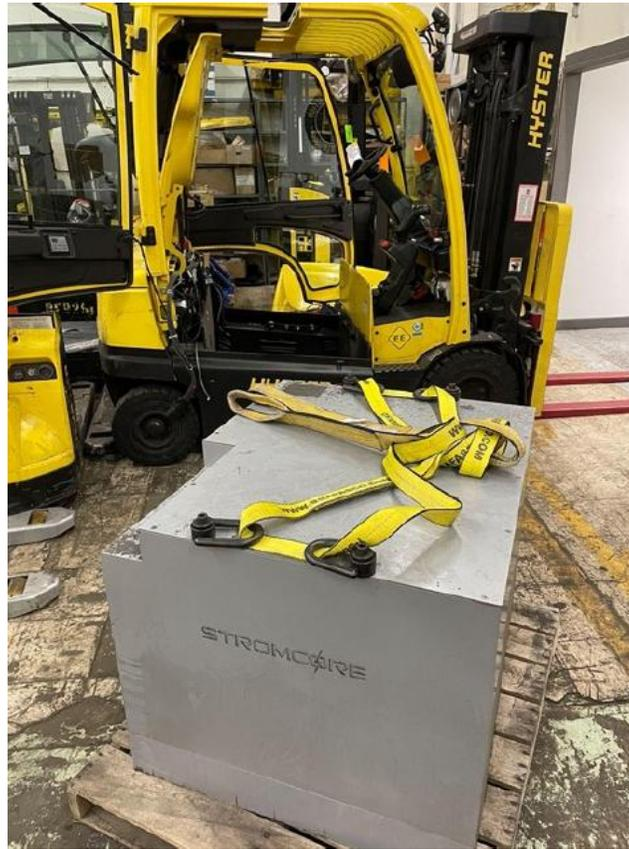

Figure 13: Image of 4x M14 lifting hoists and three (3) lifting straps secured on the battery.
3. Thread the 1st lifting strap through two (2) M14 lifting hoist loops on one side the of battery.
5. Thread the remaining (3rd) lifting strap through the 2 lifting straps on the battery (Figure 13).